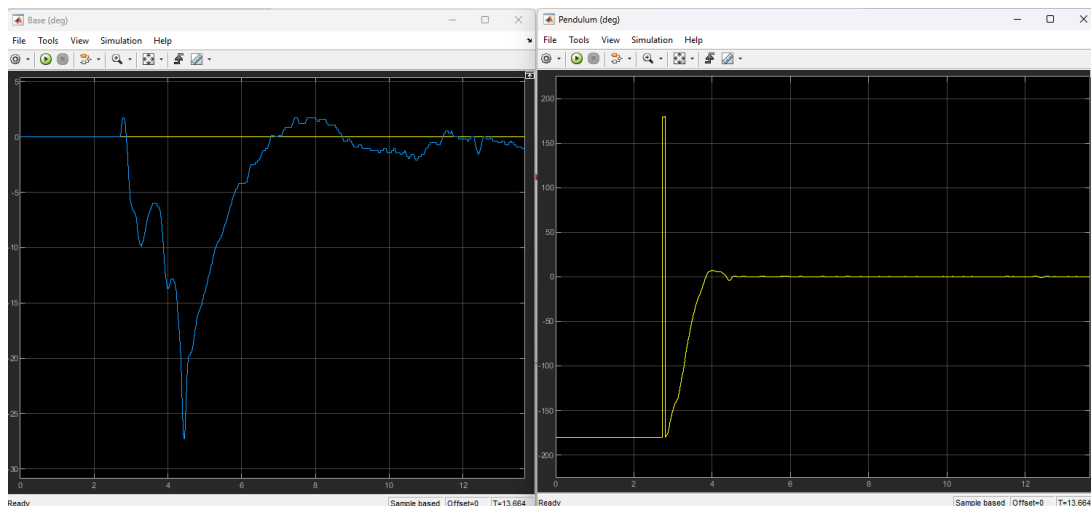

Figure 2. Sample response of balancing the Qube-Servo 3 pendulum.
9. Bring the pendulum up using the lift pendulum button until the controller engages. Take a screenshot of the Pendulum, Base and Voltage scopes. They should look similar to Figure 2.